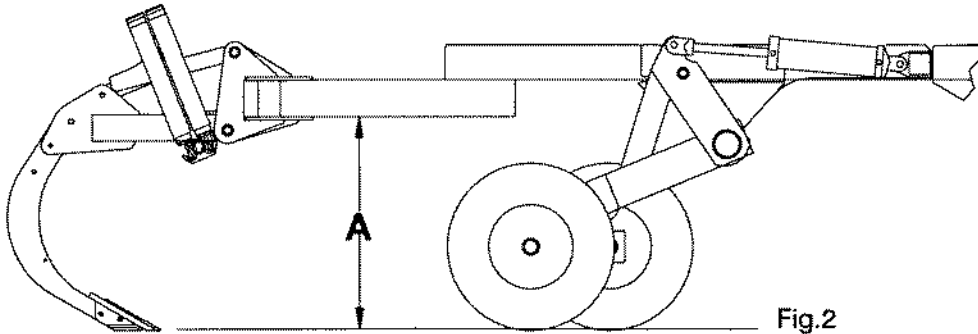

Fig. 2
The front to rear level of the unit is maintained by adjusting the leveling adjustment bolt at the front center of the unit (See Fig 2).
Measure down to the ground from a point at the front and rear of the unit as shown in FIG 2.
1. In a level area of the field set the main frame down to where the shanks are resting on the ground. Measure the distance "A" from the bottom of the frame to the ground. (See Fig.2)